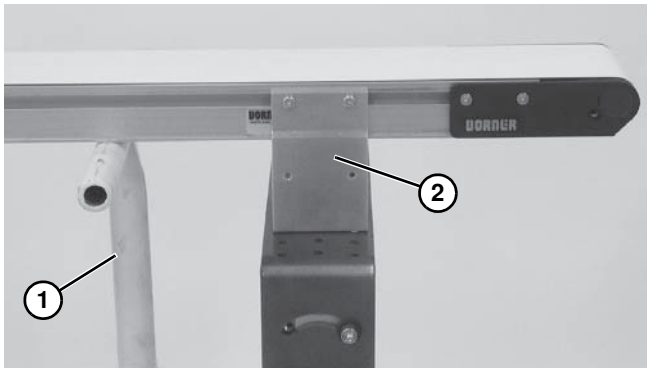

Figure 44
7. Place temporary support stands (**Figure 44, item 1**) at both ends of the conveyor.
8. Remove mounting brackets (**Figure 44, item 2**) from one side of conveyor. (Reverse steps 3 & 4 of “Mounting Brackets” on page 21.)